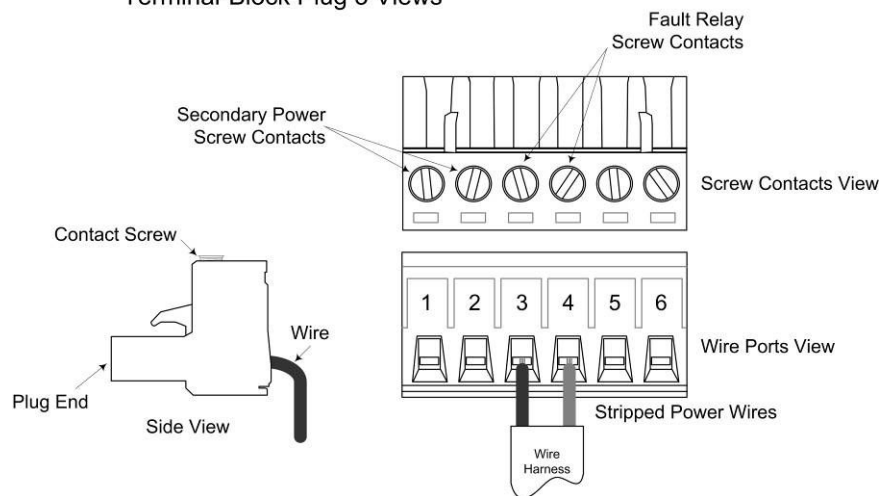

Figure 13: Alarm Relay Wiring
3.	Wire the alarm relay as shown in Figure 13.